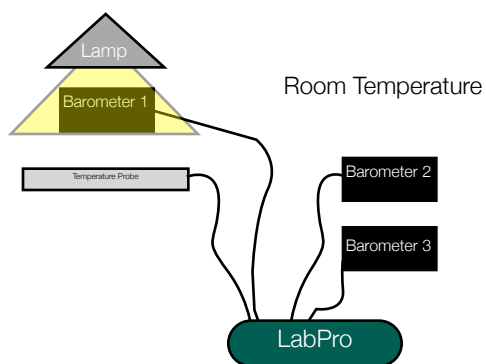

Figure 5
18. After the sensors have recorded data for 5 minutes, place Barometer 1 and the temperature probe under the heated lamp, and keep the other 2 barometers in the outside conditions (Figure 5).